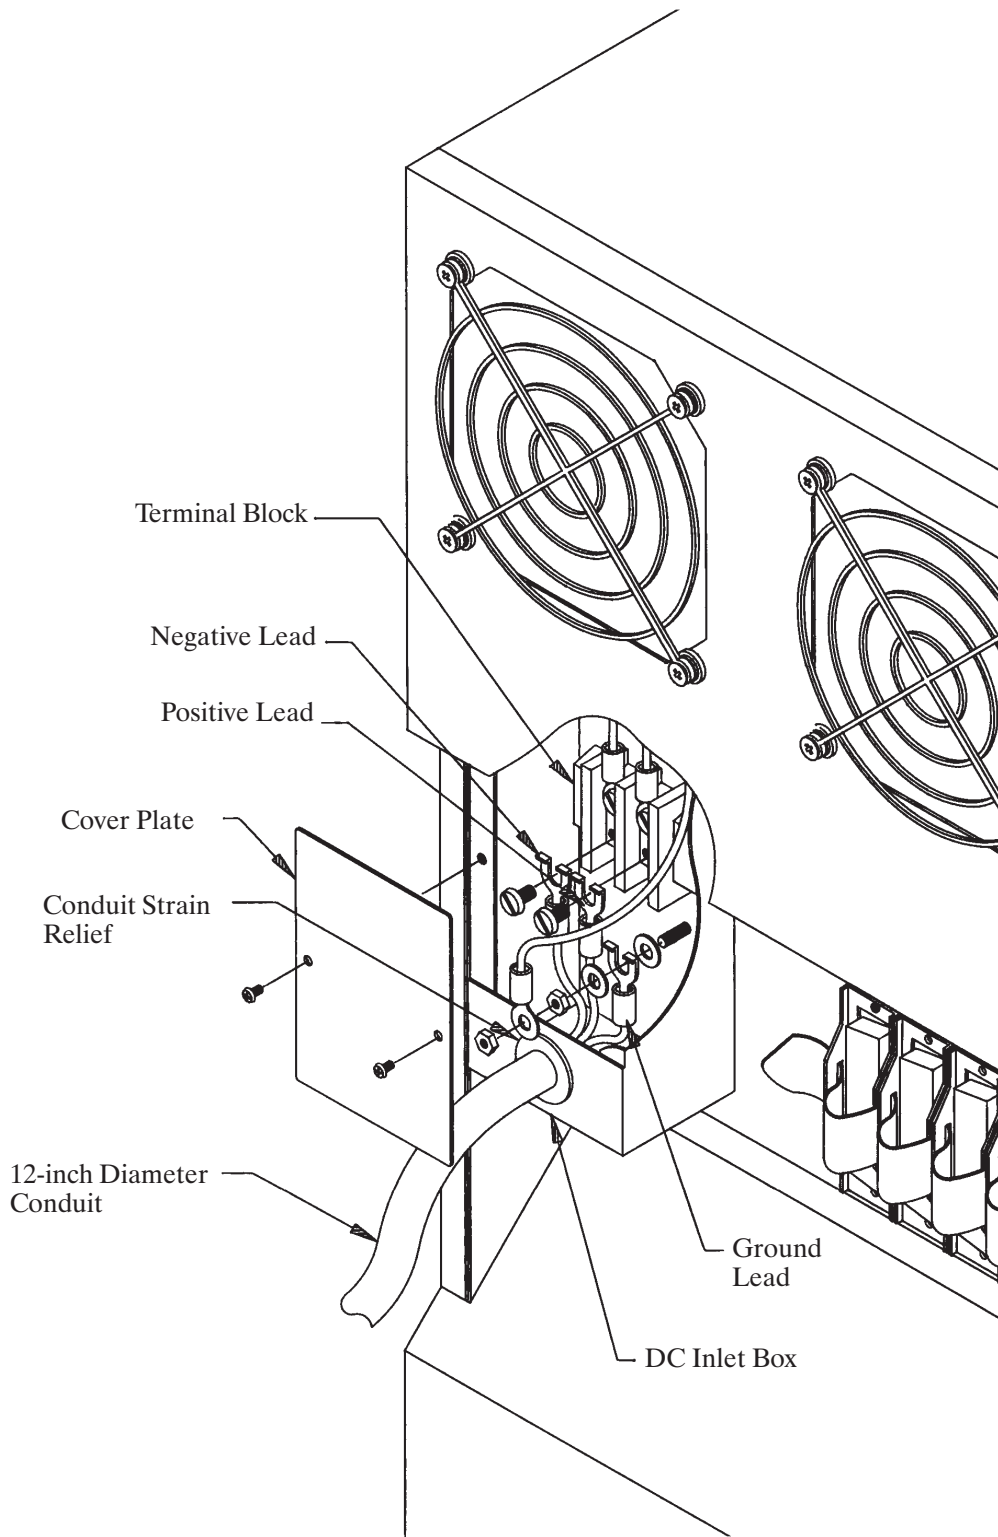
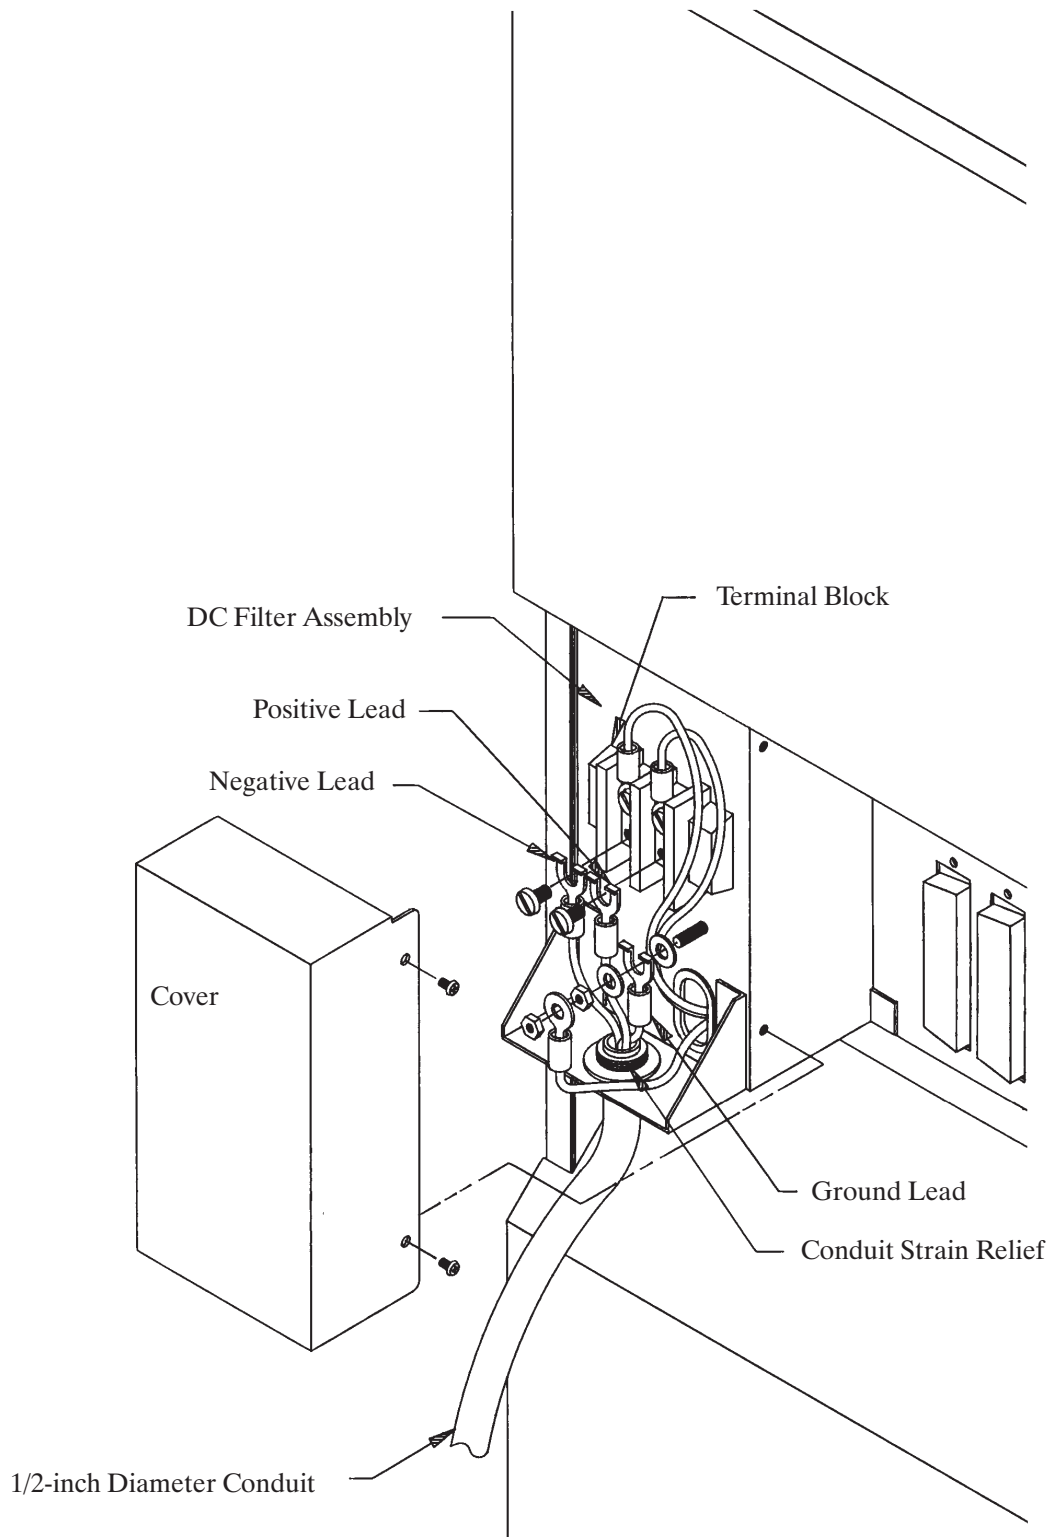
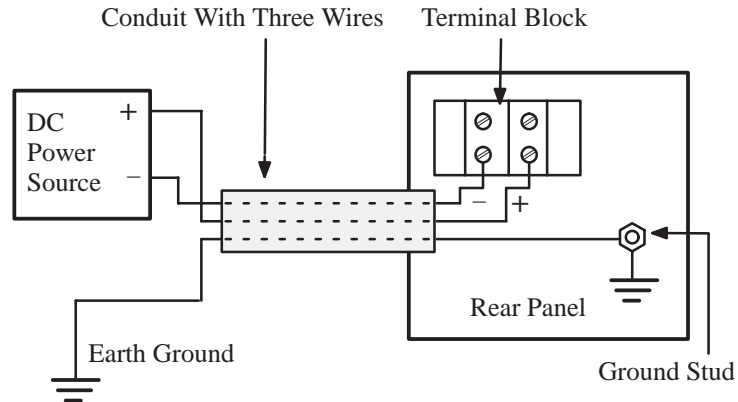

Figure 4-3 Octel Overture 200 Direct-Connect Installation
Figure 4-4 Octel Overture 300 Direct-Connect Installation
Figure 4-5 Diagram of the Field Wiring for -48-Vdc Powered Octel Overture 200
4. Remove the two screws attaching the cover to the d.c. filter assembly, as shown in Figure 4-3 (Octel Overture 200) or Figure 4-4 (Octel Overture 300) and remove the cover.
5. Connect the Octel Overture 200/300 to the power source as shown in Figure 4-3 or Figure 4-4 and Figure 4-5. Connect the positive pole of the power source to the terminal-block position marked “+” and the negative pole to the position marked “–”.
6. Connect the earth-ground conductor from a suitable building ground to the ground stud next to the terminal block on the cabinet (refer to Figure 4-3 or Figure 4-4 and Figure 4-5).